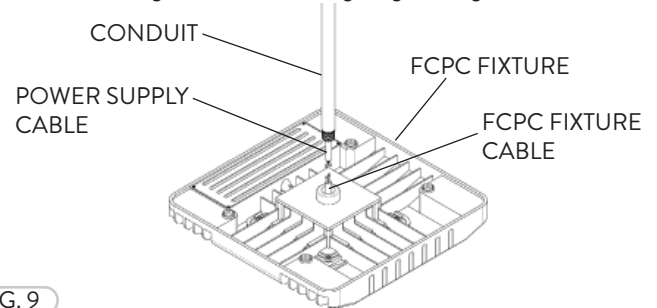

FIG. 9
- 1 The Pendant Mount is available for all FCPC fixtures. Properly attach the wiring based on the Wiring Diagram (Fig. 9).